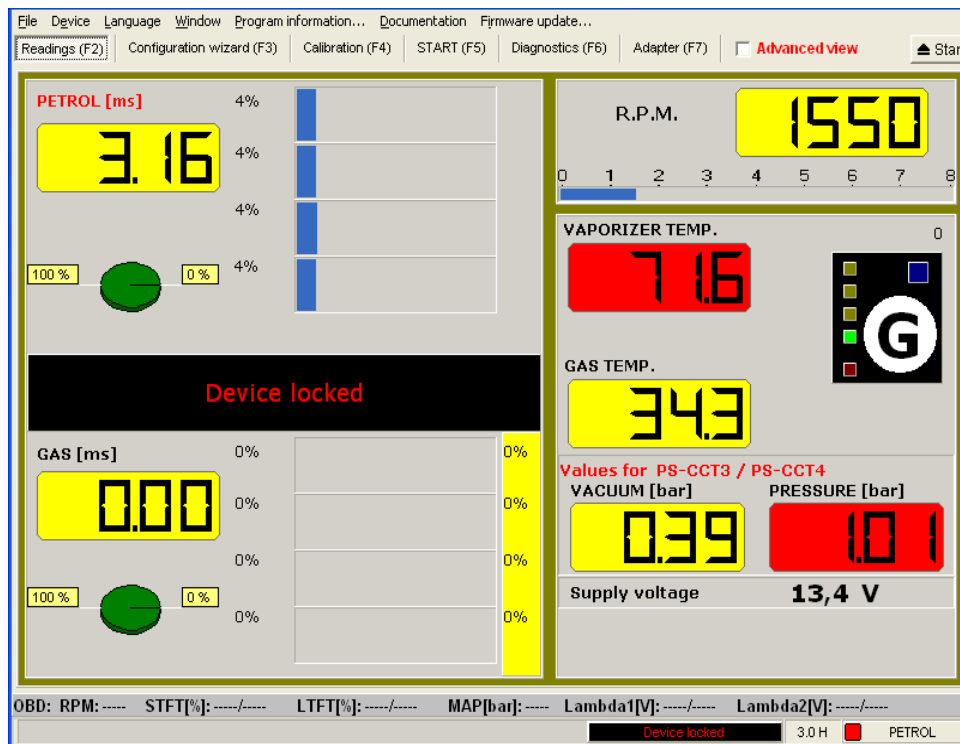

Figure 3.1: The view of the Readings tab while the device is locked
- *Lock* – allows to set password preventing from changes in configuration. Password may contain digits only, its length is 4. After locking the device, no changes in its configuration are possible. Only readings (see figure 3.1) and Configuration wizard → Engine tabs are possible to be read. Unlocking the device is possible after giving password, or writing the default configuration (menu Device → Write default configuration/Reset). Function Lock is available in controllers of version 1.4 or newer.